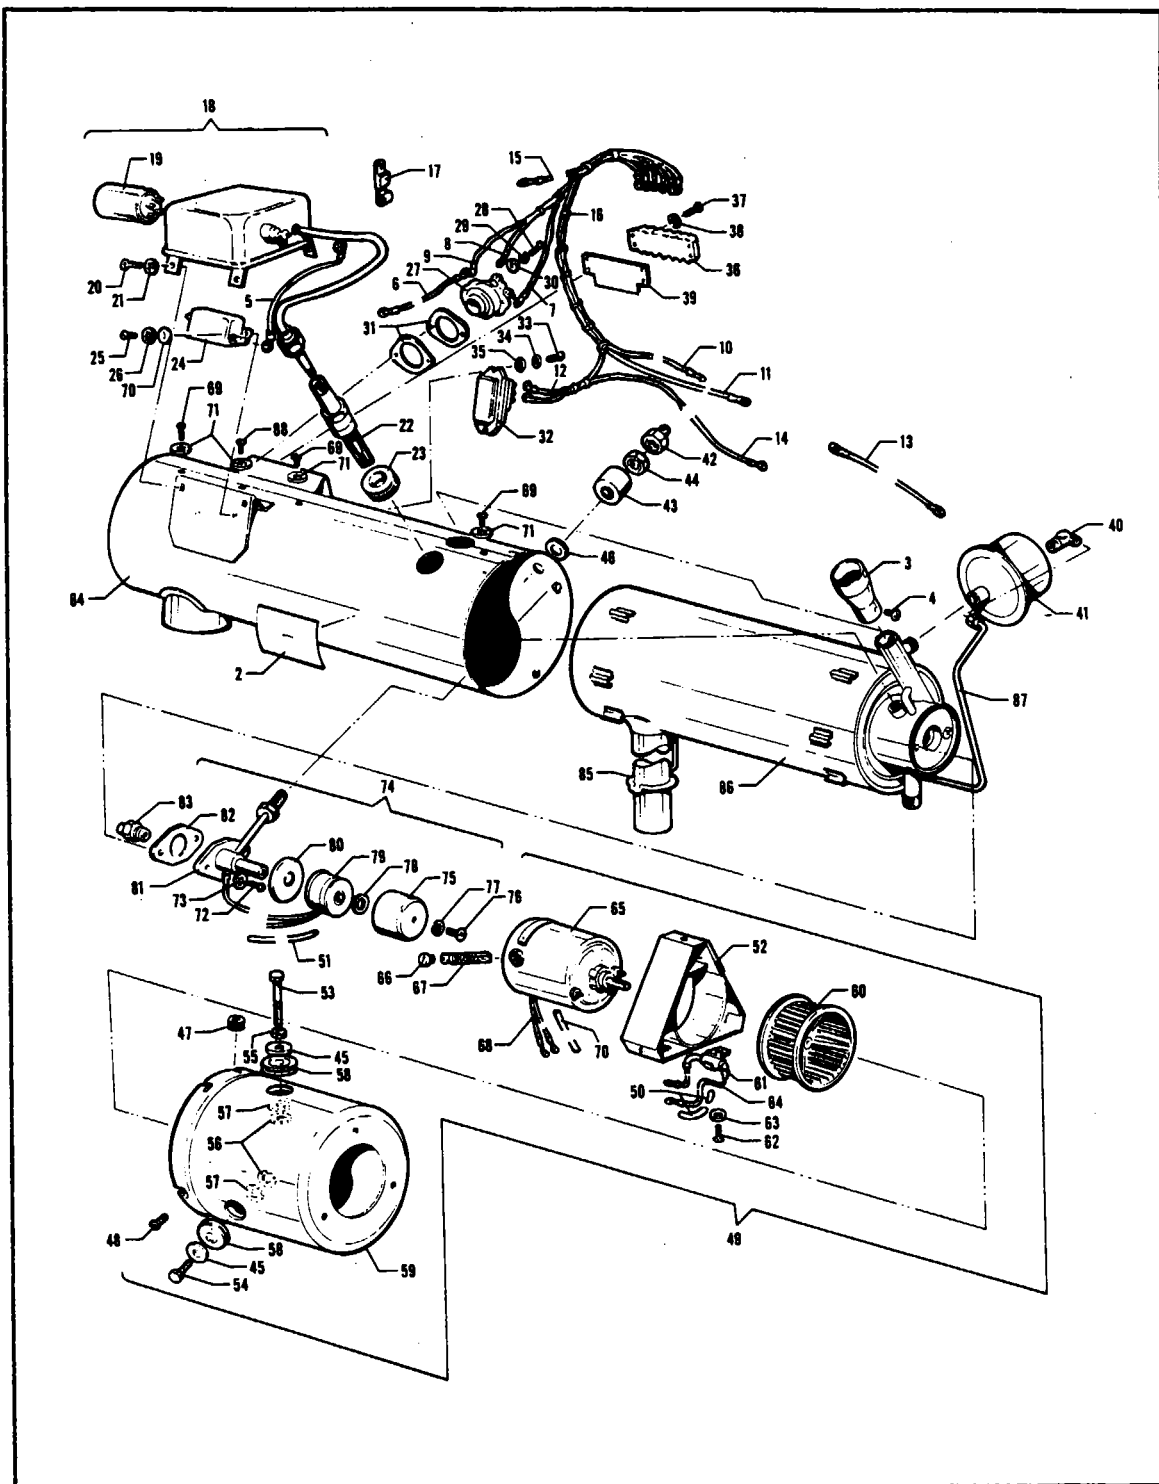

Figure 13-31. Exploded View of Heater Assembly No. 751 978 (14-volt) and 751 999 (28-volt)
13-127. REASSEMBLY. (Refer to Figure 13-31.)
Legend for Figure 13-31.
k. Insert the fitting on end of nozzle fuel tube through the opening in the jacket (84) and attach the nozzle holder to the combustion tube assembly (86) with the two screws (72) and lockwashers (73). It may be necessary to place a slight bend in the shrouded fuel tube to permit alignment of screw holes. Be sure to use a new gasket (82) and connect the solenoid ground wire under one of these screws. Make sure a good electrical ground connection exists at this point.
l. Using a new spark plug gasket, install the spark plug (22) and tighten to a torque of 28 foot pounds. Install the grommet (23) in the jacket around the spark plug.
m. Install the ignition assembly (18) on the jacket assembly (84) with the four screws (20) and lockwashers (21). Connect the high-voltage lead to the spark plug and tighten it to 20 foot pounds.
n. Attach the radio-noise filter (24) to the jacket assembly (84) with the two screws (25) and lockwashers (26).
o. Attach the overheat limit switch (27) and spacer gaskets (31) to the jacket assembly (84) with two screws (28), lockwashers (29) and flat washers (30). Tighten the screws securely.
p. Attach the cycling switch (32) to the jacket assembly (84) with the two screws (33), lockwashers (34) and flat washers (35).
q. Place the terminal strip insulation (39) in position on the jacket (84), followed by the terminal strip (36). Secure both parts by installing the two screws (37) and lockwashers (38). The two screws are located at two diagonal corners of the terminal strip.
r. Center the fuel fitting in jacket opening. Place the fuel fitting shroud gasket (46) and shroud (43) on the fuel fitting and install the nut (44) finger tight. Insert a 3/4 inch open-end wrench inside the jacket and hold the fuel-tube fitting while tightening the nut (44) with a 3/4 inch deep socket. Install the reducer fitting (42).
s. Rotate the combustion air switch (41) onto the threaded fitting on the combustion air tube and tighten it firmly.
t. Slide the grommet (47) over the combustion air tube and connect the tube to the elbow fitting (40) on the combustion air pressure switch (41).
u. Install the wiring harness and connect all wire leads to their respective terminals. (Refer to the wiring diagram, Figure 13-25.) Place the grommet (47, Figure 13-31) in position in the jacket (84), locate the ventilating air blower (49) at the end of the jacket. Thread the quick-disconnect on the wiring harness through the grommet (47) and connect it to the mating connector on the motor lead.
v. Place the blower housing in position on the jacket assembly (84) and secure it by installing the four screws (48), if removed at disassembly. This operation is easier if the screws (48) are started into their threads and the blower housing rotated into place, allowing the screws to enter the notched openings in edge of blower housing. Tighten all screws securely.
w. Install the elbow adapter (3) with the screw (4).